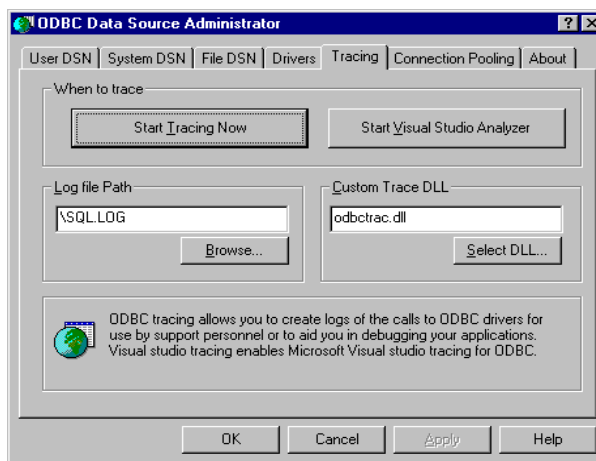

Figure 326. ODBC Data Source Administrator Tracing tab dialog
2. Select the **Tracing** tab, and click **Start Tracing Now** (Figure 326).